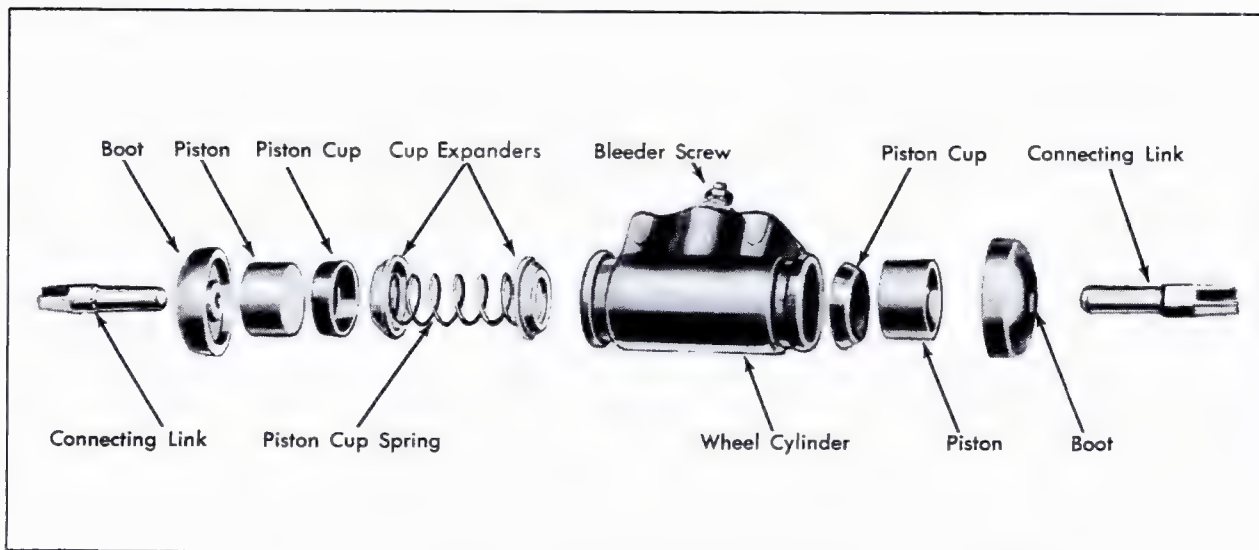

Fig. 5-8 Wheel Cylinder Disassembled
b. Disassembly (Fig. 5-8) (All)
d. Assembly, (Fig. 5-8) (All Except 693)